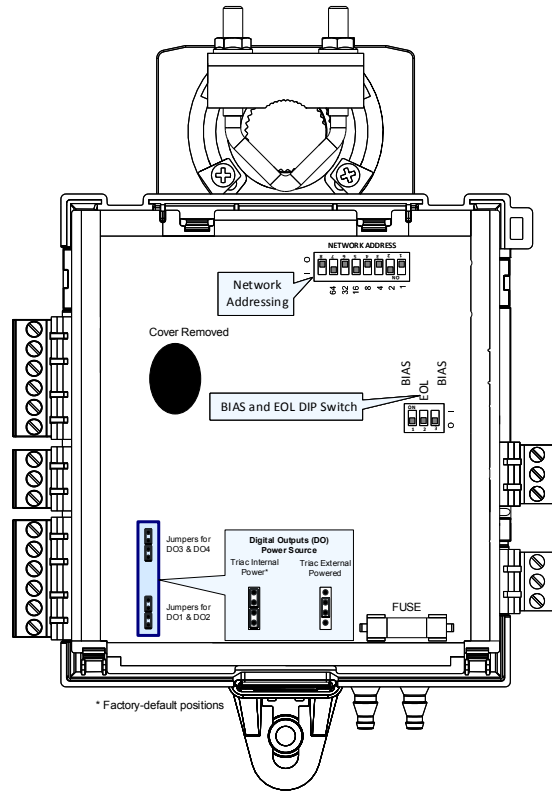

Figure 5: ECB-VAV (cover removed)
1. Configure the controller's DIP switches. See Figure 5.
<input type="checkbox"/> Discrete digital, Pulse, or PWM output: 24VAC externally-powered triac controlling a relay 1 . <input type="checkbox"/> Set the jumper according to Figure 5.	DOx
<input type="checkbox"/> Discrete digital, Pulse, or PWM output: 24VAC internally-powered triac controlling a relay 1,2 . Set the jumper according to Figure 5.	DOx
<input type="checkbox"/> 24VAC externally-powered triac output controlling a floating actuator 1 . <input type="checkbox"/> Set the jumper according to Figure 5.	DOx
<input type="checkbox"/> 24VAC internally-powered triac output controlling a floating actuator 1 . <input type="checkbox"/> Set the jumper according to Figure 5.	DOx